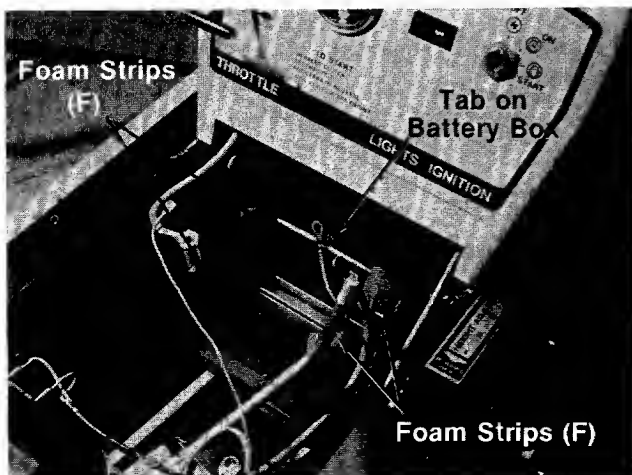
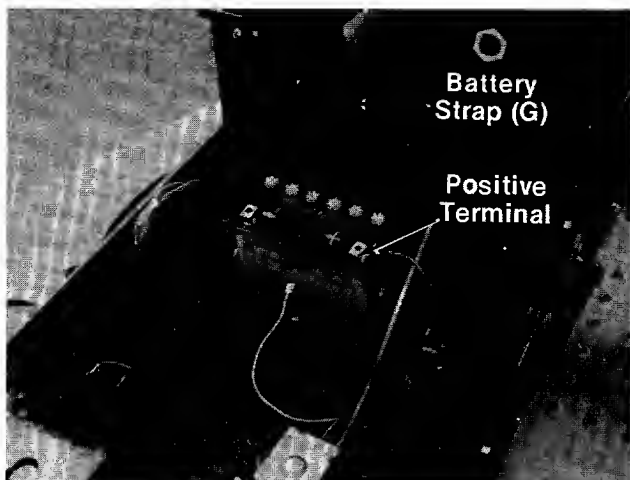

FIGURE 8.
FIGURE 9.
4. Install the four foam strips (F) into the battery box as follows.
- Peel the paper off the foam strips to expose the adhesive backing. Press foam strips firmly into the corners of the battery box. See figure 8.
5. Loop one end of battery strap (G) around the tab on battery box shown in figure 8. Hold the battery strap out of the way. Place the battery in the lawn tractor so that the positive terminal is facing the right side of the unit. See figure 9.